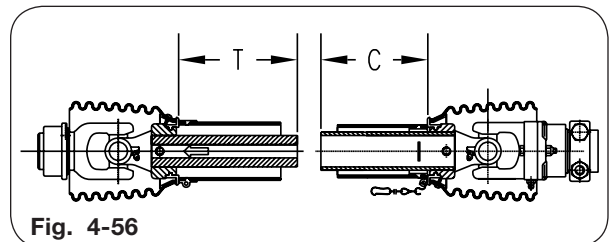

Fig. 4-56
2. Pull apart PTO telescoping shaft ends and measure lengths “T” & “C” (Fig. 4-56)